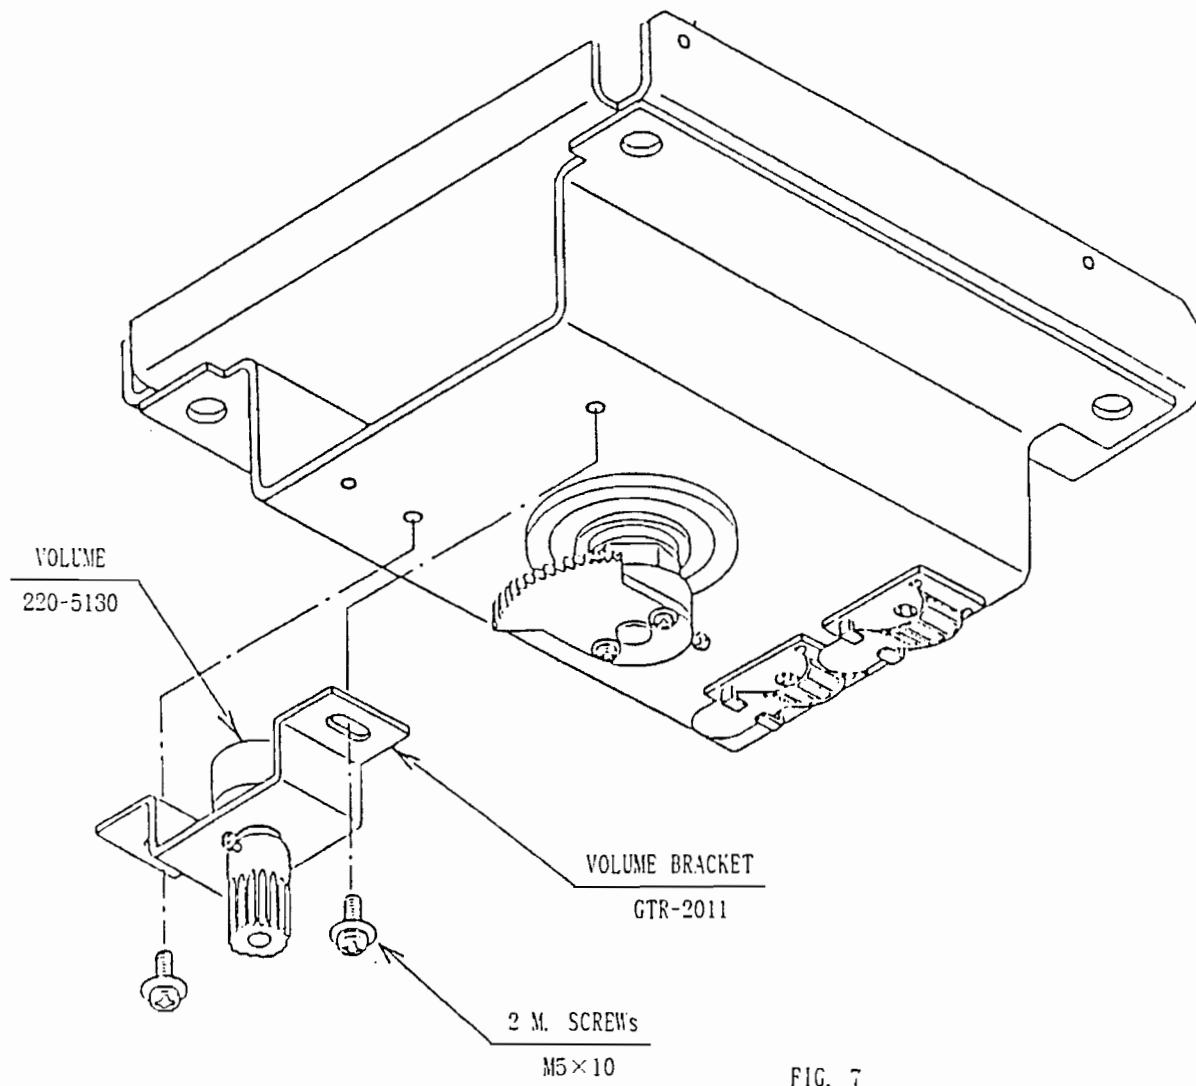

FIG. 7
(2) REMOVING THE VOLUME FOR HORIZONTAL DIRECTIONS
- ① Take off the 2 machine screws ( $M5 \times 10$ ) and remove the VOLUME together with the VOLUME BRACKET (see FIG. 7).